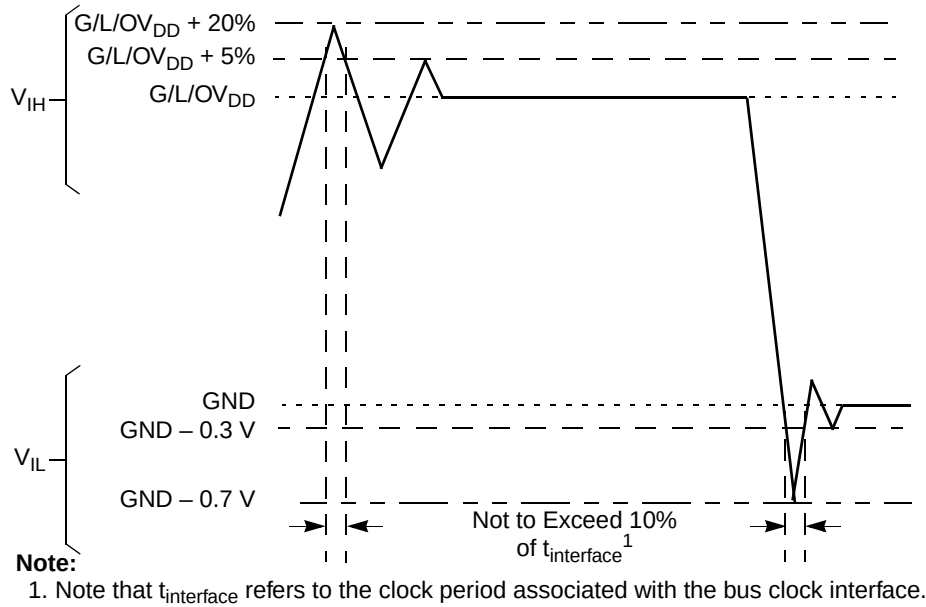

Figure 3. Overshoot/Undershoot Voltage for GV_{DD}/OV_{DD}/LV_{DD}
- (M,L,O)V_{IN} and MV_{REF} may overshoot/undershoot to a voltage and for a maximum duration as shown in Figure 3.